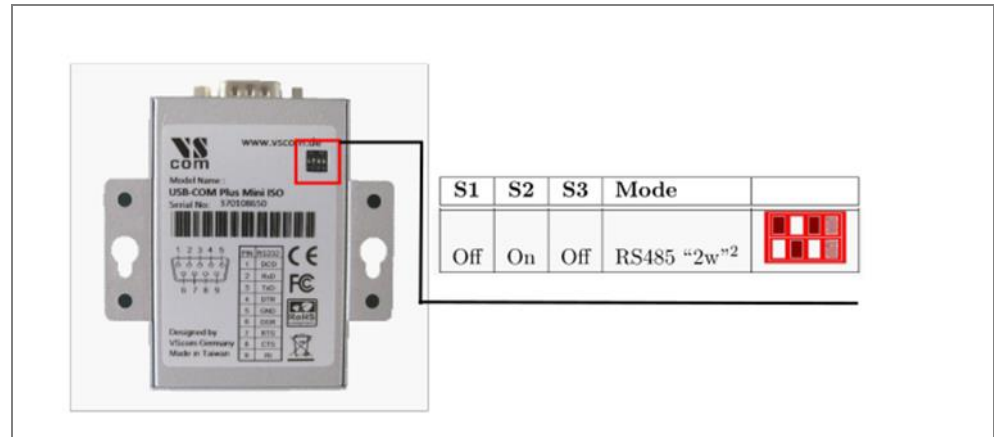

Fig. 1
- ▶ Set the DIP switch to RS-485 mode. The DIP switch is located on the back of the RS converter (Fig.1).